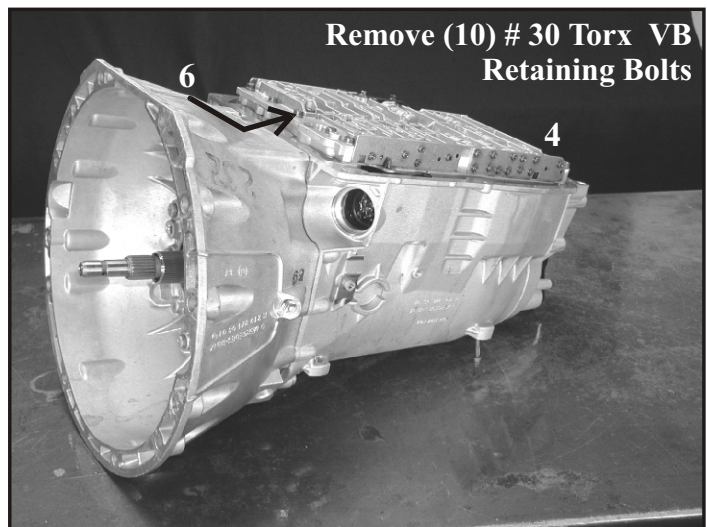

Figure 16
Remove the Valve Body's (10) # 30 Torx retaining bolts. 6 across the top and 4 across the bottom (See Figure 16). *When re-attaching these valve body bolts, tighten down to 5.9 ft. lbs. (70.74 inch lbs./8 Nm).*